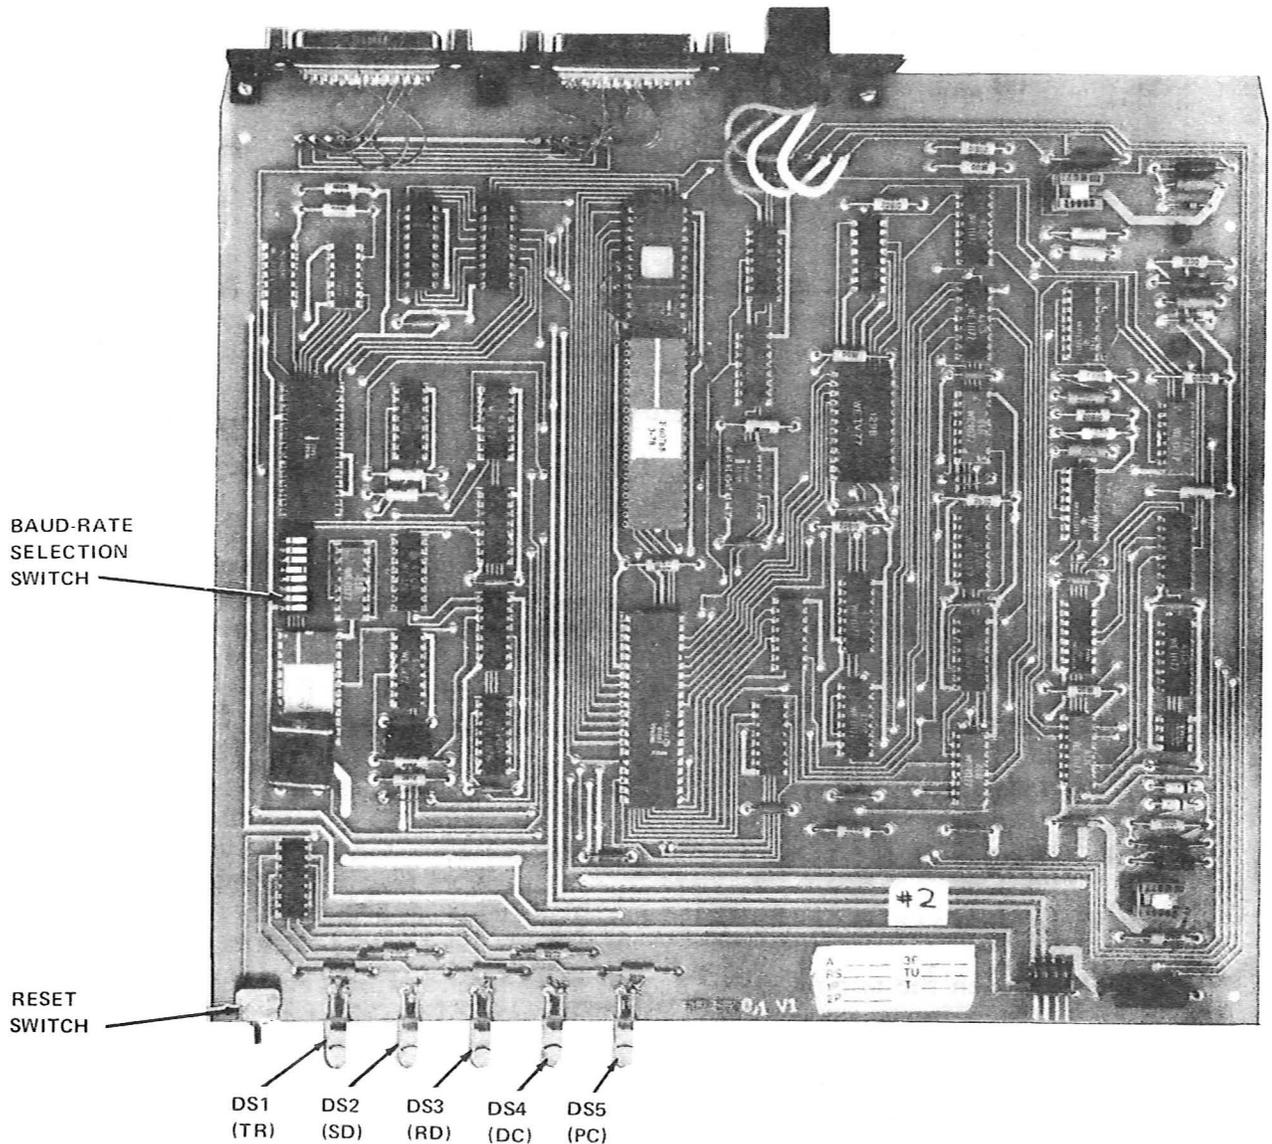

Fig. 3 - HN9B or HN11 Circuit Pack (Controller Board)
3.1.6 Slide the controller board ckt pack (see Fig. 3) out of the chassis. The baud rate DIP switch is now exposed.